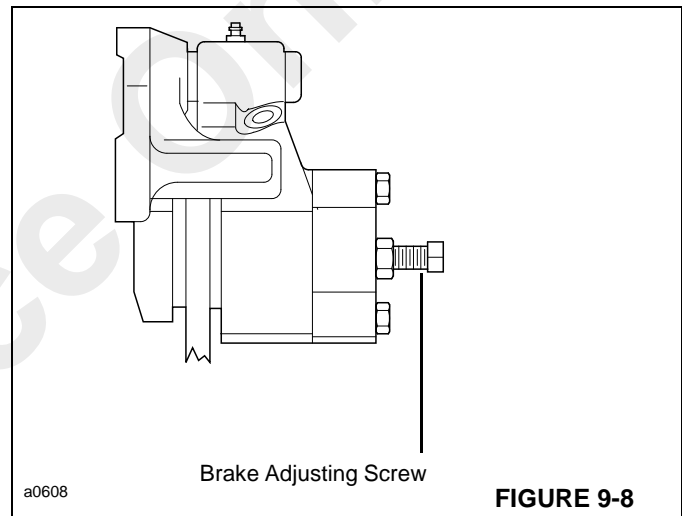

FIGURE 9-8
2. Loosen the lock nut and adjusting screw (Figure 9-8).